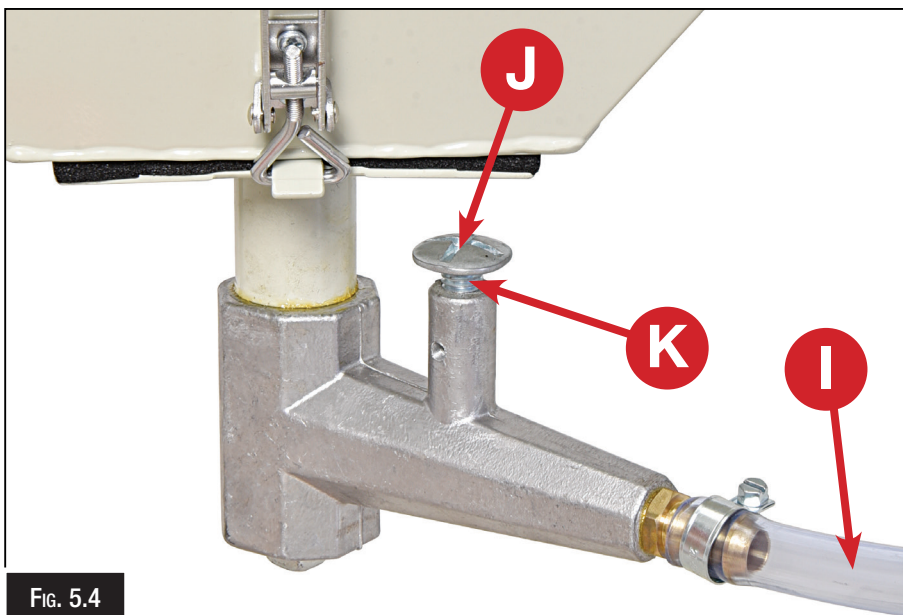

FIG. 5.4
6. Abrasive Metering Valve (Fig. 5.4)